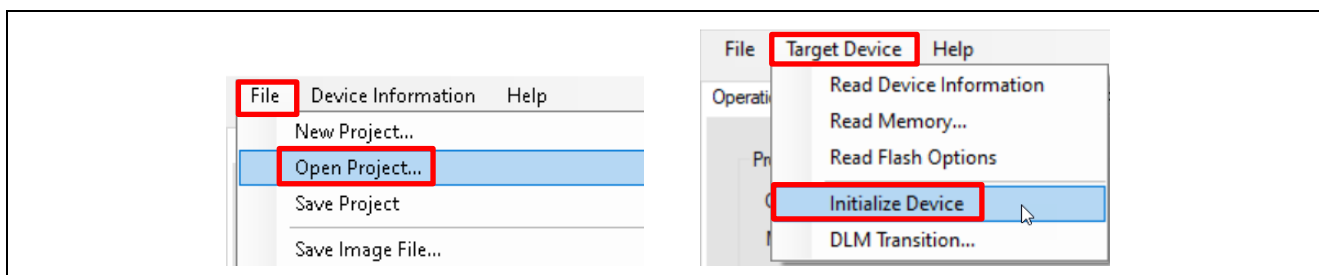

Figure 102. Open RFP Project and Initialize the Device
8. Select **Target Device** → **Initialize Device** as shown in Figure 102.